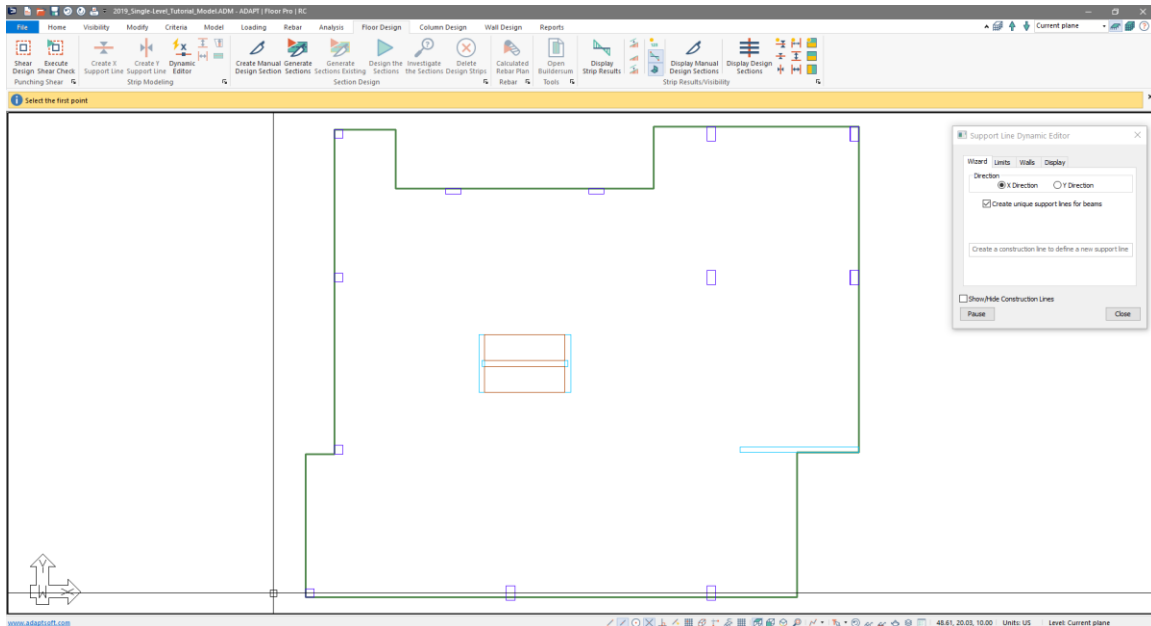

Figure 6-4
- Position your mouse to be along the lower column line but outside of the slab region to the left of the slab as shown in **FIGURE 6-4**.